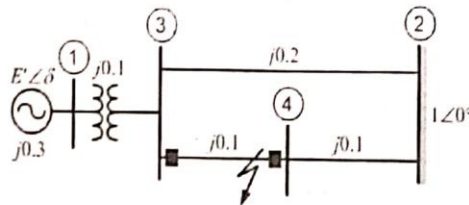

Figure. 6
- (b) The per unit system reactances that are converted in a common base, are shown in this Figure. 6. Let us assume that the infinite bus voltage is $1 \angle 0^\circ$. The generator is delivering 1.0 per unit real power at a lagging power factor of 0.9839 to the infinite bus. While the generator is operating in steady state, a three-phase bolted short circuit occurs in the transmission line connecting buses 2 and 4 — very near to bus 4. The fault is cleared by opening the circuit breakers at the two ends of this line, find the critical clearing time for various values of H . (13)